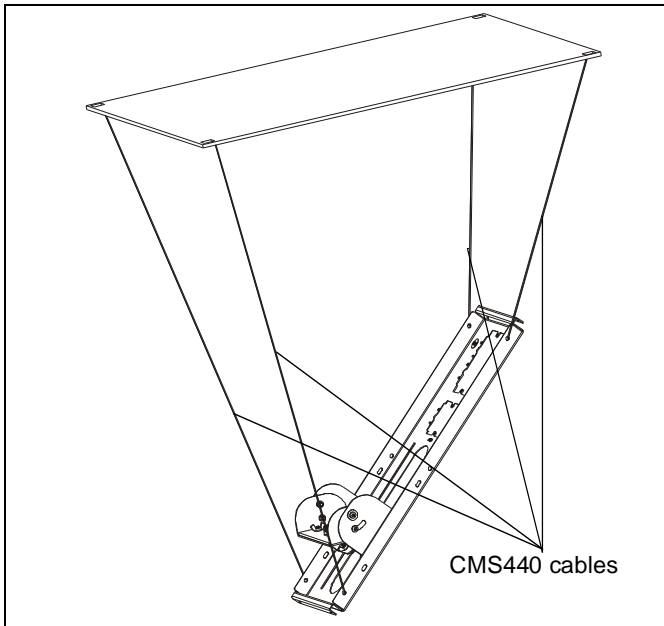
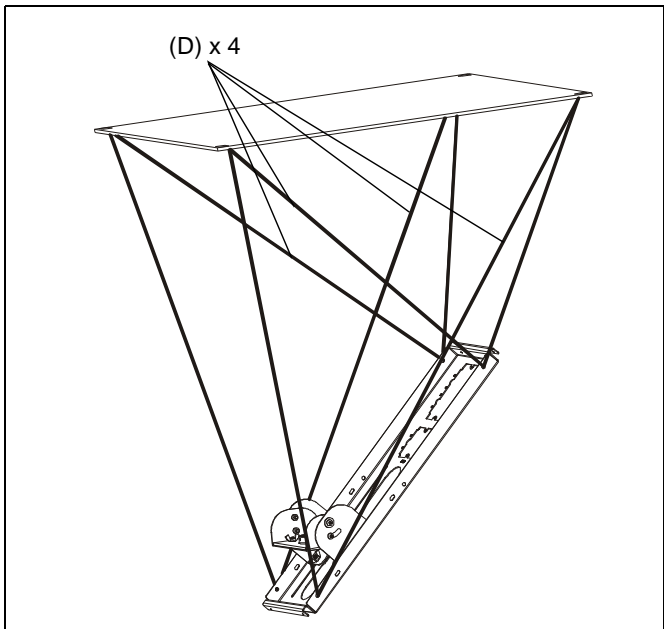
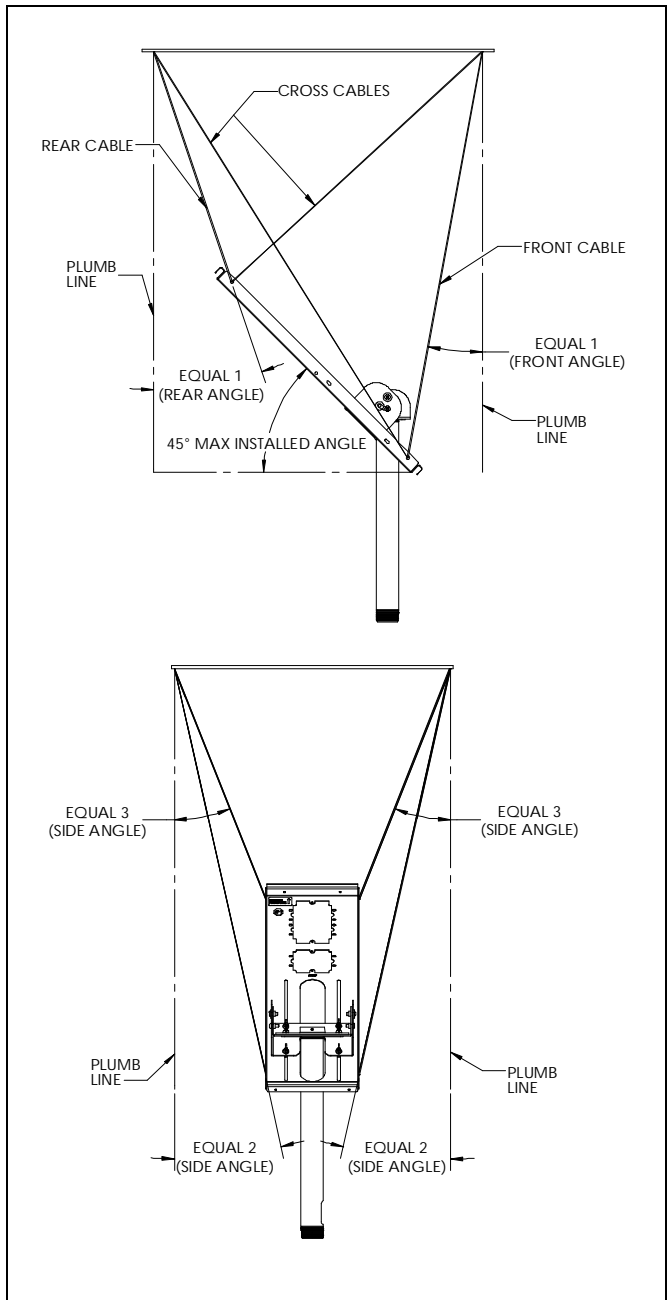

Figure 4
Figure 5
Figure 6
1. Follow CMS440 installation instructions to complete installation to ceiling, using four cables and cable locks used with the CMS440 for the front and rear cables (See Figure 4) and then the four cross cables (D) and four cable locks (E). (See Figure 5)
NOTE: The cross cables should install to the front or back of the plate and move to the opposing mounting point on the ceiling. (See Figure 5) and (See Figure 6)
IMPORTANT ! : Angles from plumb line (between 10° and 30°) for the front and back outer cables (not the cross cables) should be as close to equal in each plane as possible. The front and rear angles for the front and rear cables should be close to equal (upper drawing - Equal 1). The side angles for the front and rear cables should be close to equal (lower drawing - Equal 2 and 3). (See Figure 6)